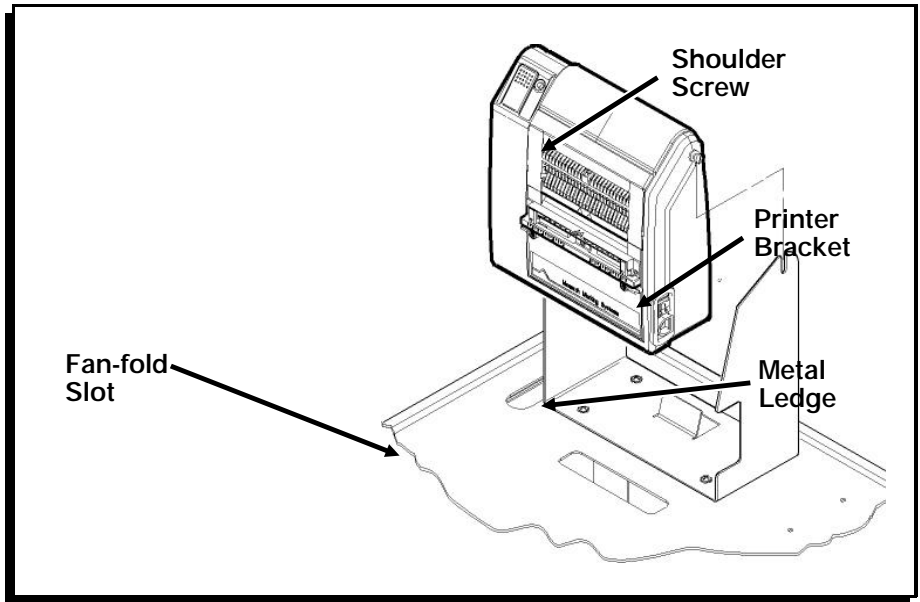

Figure 19
3. Slide the printer into the printer bracket so the printer faces the fan-fold slot in the Station's top shelf. The printer's shoulder screws slide into the vertical slots in the printer brackets. Make sure the back of the printer rests against the upturned metal ledge on the printer bracket. The printer should lean back slightly. (Figure 19.)